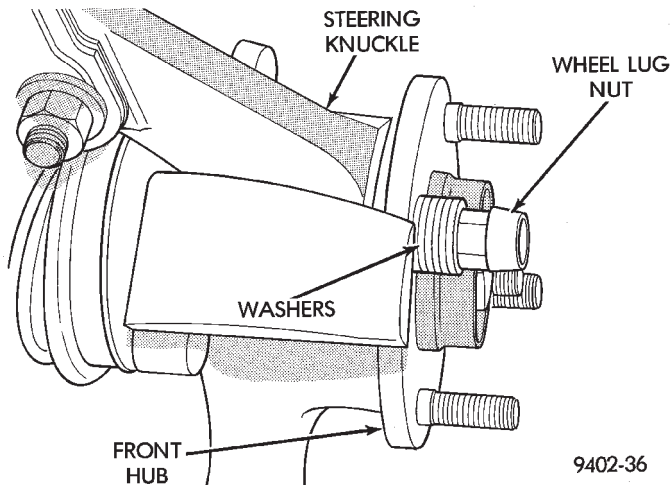

Fig. 68 Installing Wheel Stud Into Hub
(1) Install replacement wheel stud into flange of hub and bearing assembly. Install washers on wheel stud, then install a wheel lug nut on stud with flat side of lug nut against washers (Fig. 68).